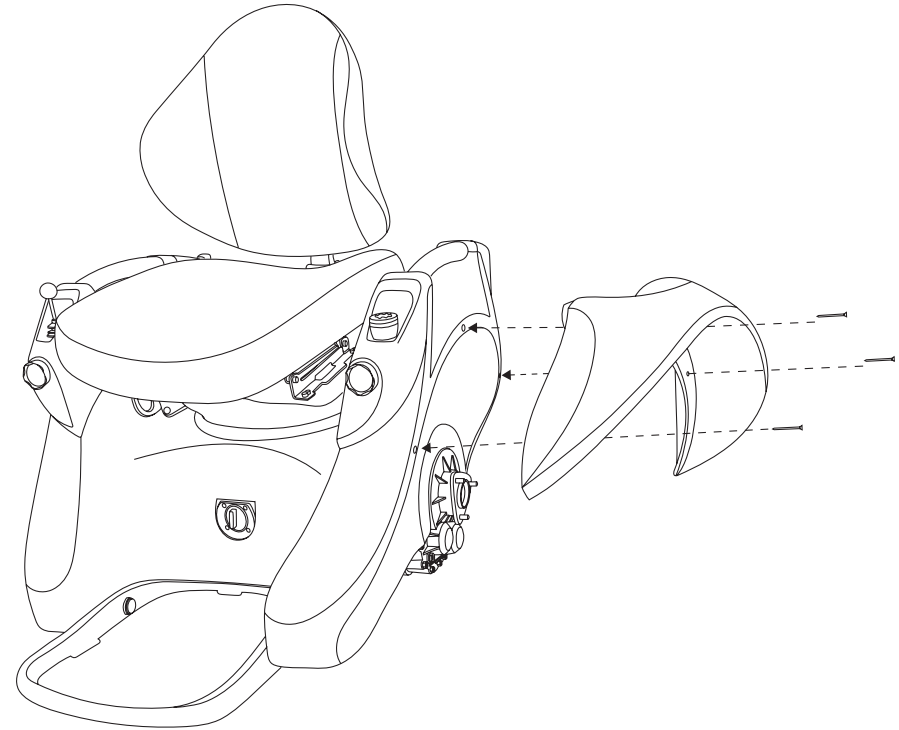

Figure 43: Remove/install the Off-Road Kit Wheel Guards (Fenders).
1. Position the Guard so that it aligns with the three holes in the Omeo Body (as seen in **Figure 43**)
2. Undo and remove the nuts and four mounting screws from the top of the Seat Pan (*Figure 43: Adjusting the Seat Pan, Pg. 88*)